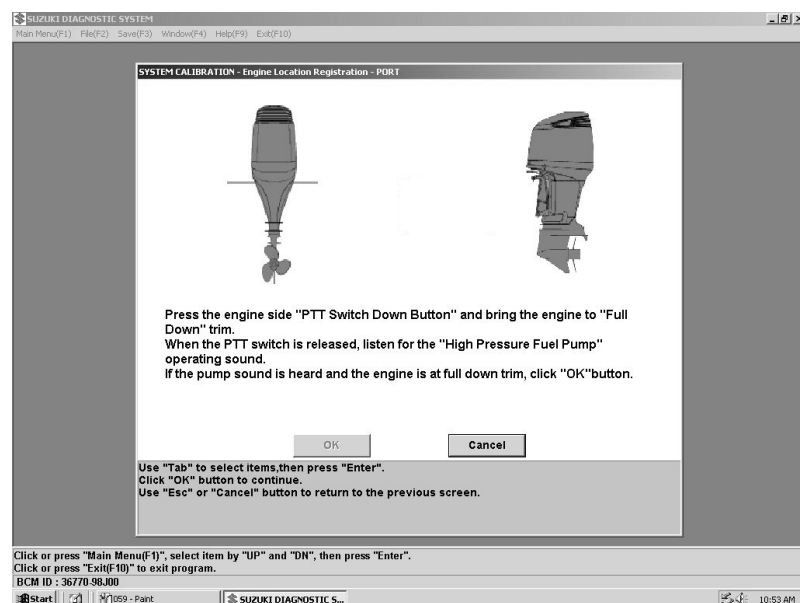

Fig.93
6. The following window (Fig.93) appears. This window is used to register the outboard motor position in the BCM.
Click the “OK” button to have the outboard motor position accepted and proceed to the next step. (Fig.93 is an example of registering the PORT outboard motor.)